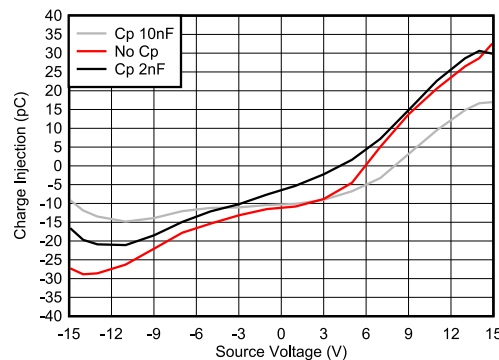

Figure 9-2. Charge Injection Compensation
The TMUX720x contains specialized architecture to reduce charge injection on the Drain (D). To further reduce charge injection in a sensitive application, a compensation capacitor (C_p) can be added on the Source (Sx). This will ensure that excess charge from the switch transition will be pushed into the compensation capacitor on the Source (Sx) instead of the Drain (D). As a general rule of thumb, C_p should be 20x larger than the equivalent load capacitance on the Drain (D). Figure 9-2 shows charge injection variation with different compensation capacitors on the Source side. This plot was captured on the TMUX7219 as part of the TMUX72xx family with a 100 pF load capacitance.